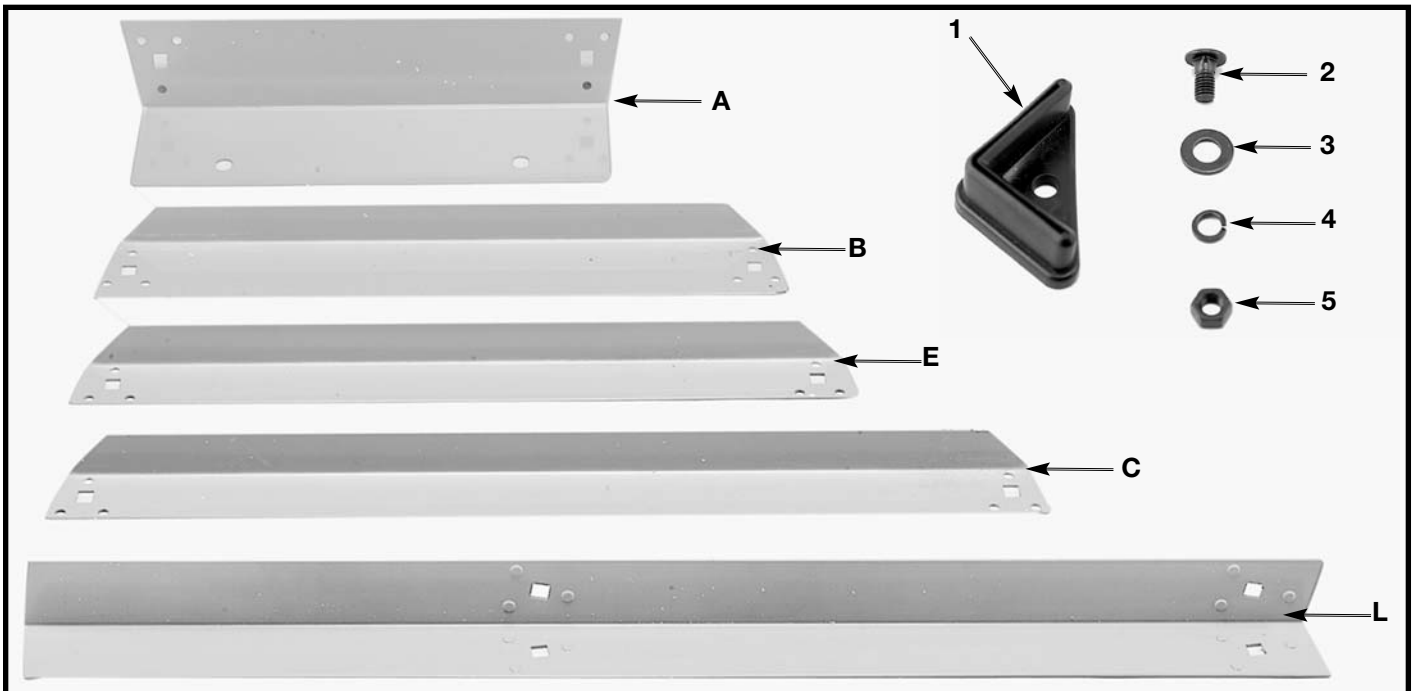
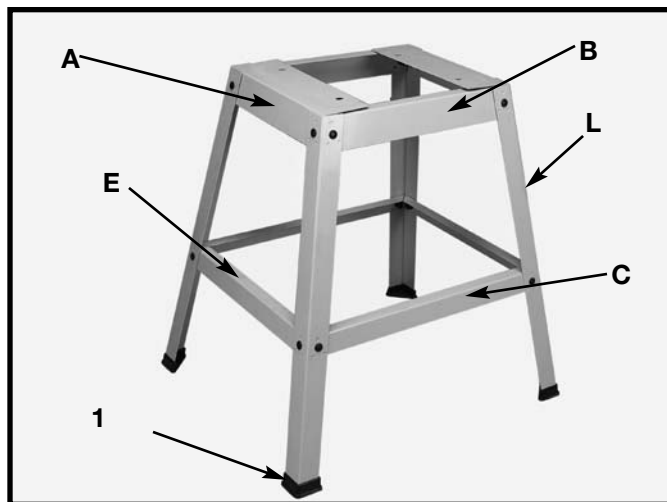

Fig. 3
Fig. 4
1. Assemble stand as shown in Fig. 4, using parts shown in Fig. 3. The brackets and legs are identified with the same letter in both illustrations. Insert the M8 x 16mm carriage head screws through the legs and the brackets then place the 3/8" flat washers on the screws and secure with the M8 hex nuts. Only tighten nuts finger-tight at this time. **NOTE:** The top lips of top brackets (A) must fit on top of the front and back brackets (B).
2. Attach the four plastic feet (1) Fig. 4 to the bottom of each leg (L).